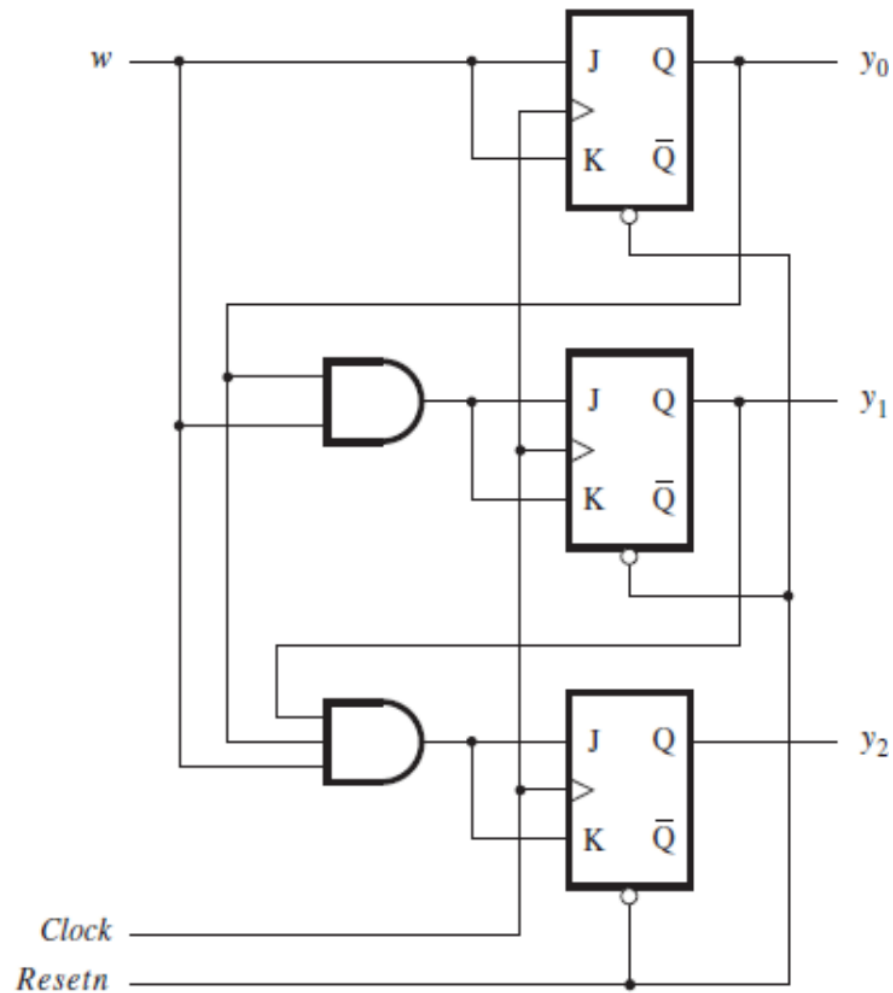

Fig.8 3 bits ip counter
- Now we will use logic as shown in Fig.8 to make a 4 bits up counter.